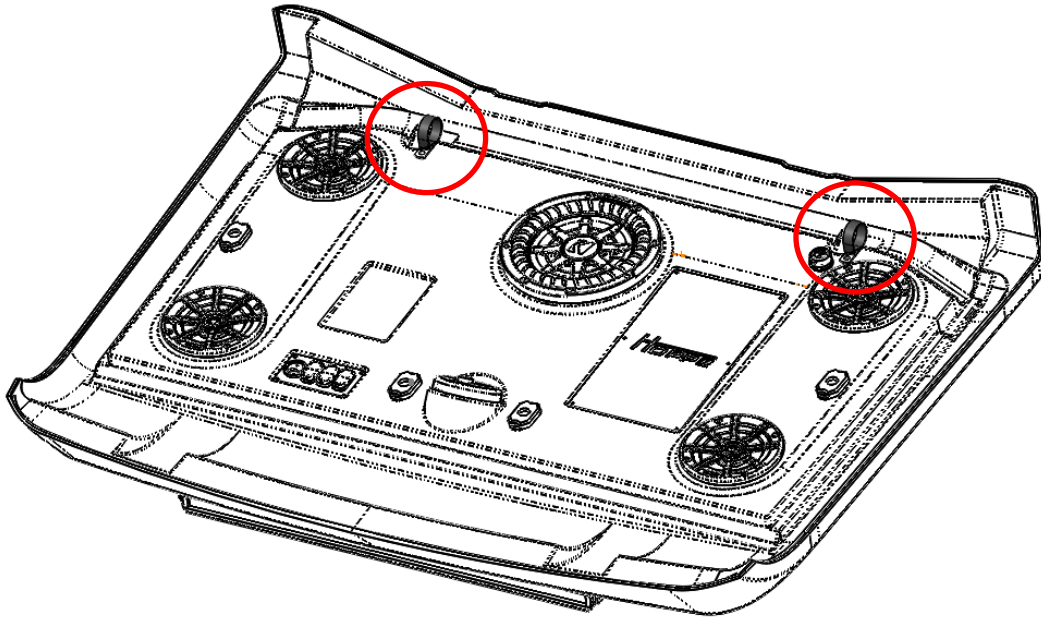
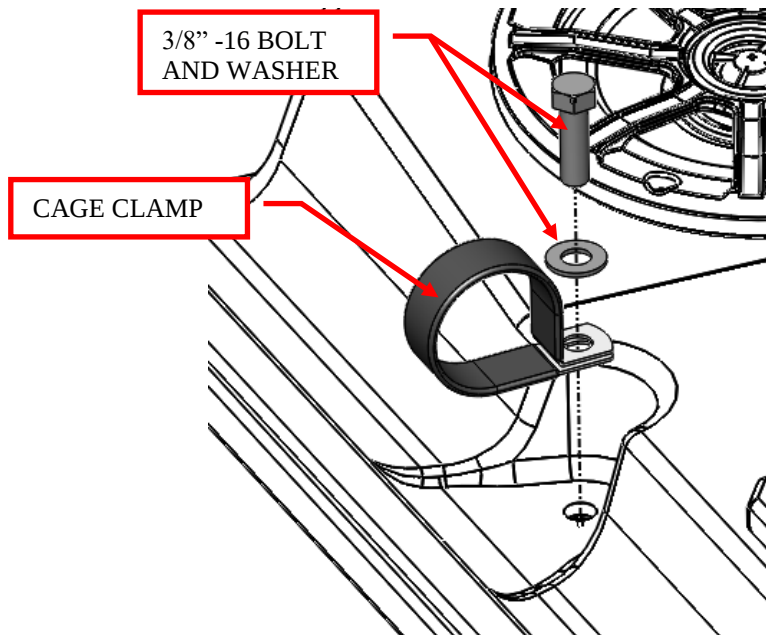

Figure 2: Remove the clamps from the top.
Figure 3: Close up of cage clamp hardware.
1. Remove the cage clamps and 3/8"-16 bolts and washers that come pre-installed on the top. Save the hardware for installation. See Figure 2 and Figure 3.
5. Slide the loop clamps into position so they line up with the threaded holes in the top. For all clamps, install the 3/8-16 bolt with washer through both clamp tabs and into the threaded hole in the top. Use blue Loctite 243 (medium strength) and torque the bolts to 25 ft.*lbs. See Figure 3.